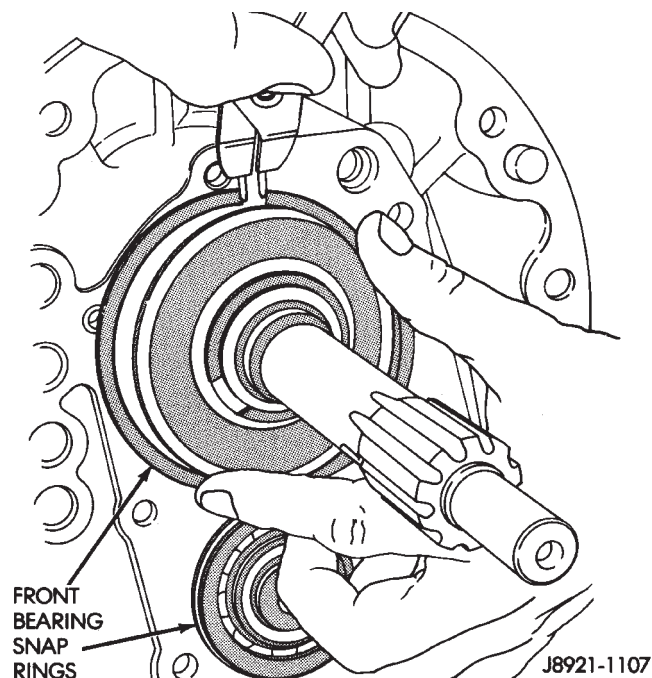

Fig. 38 Install Front Bearing Snap-rings
(4) Install new front bearing snap rings (Fig. 38).